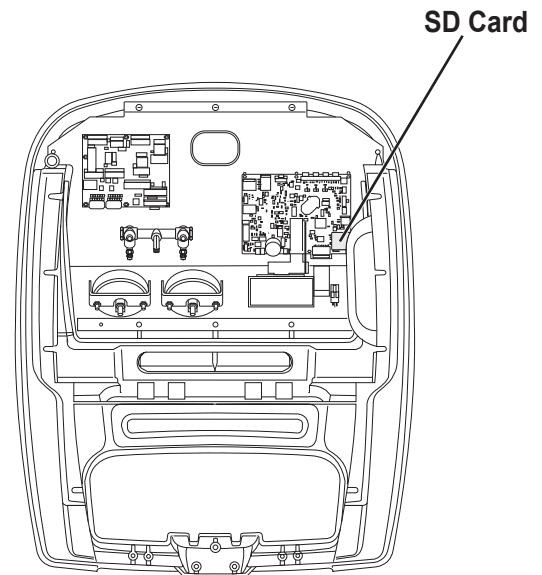

Figure 8
2. Remove the top panel retention screws and rotate the top panel about its hinge to access the SD card slot on the control panel. See Figure 8.